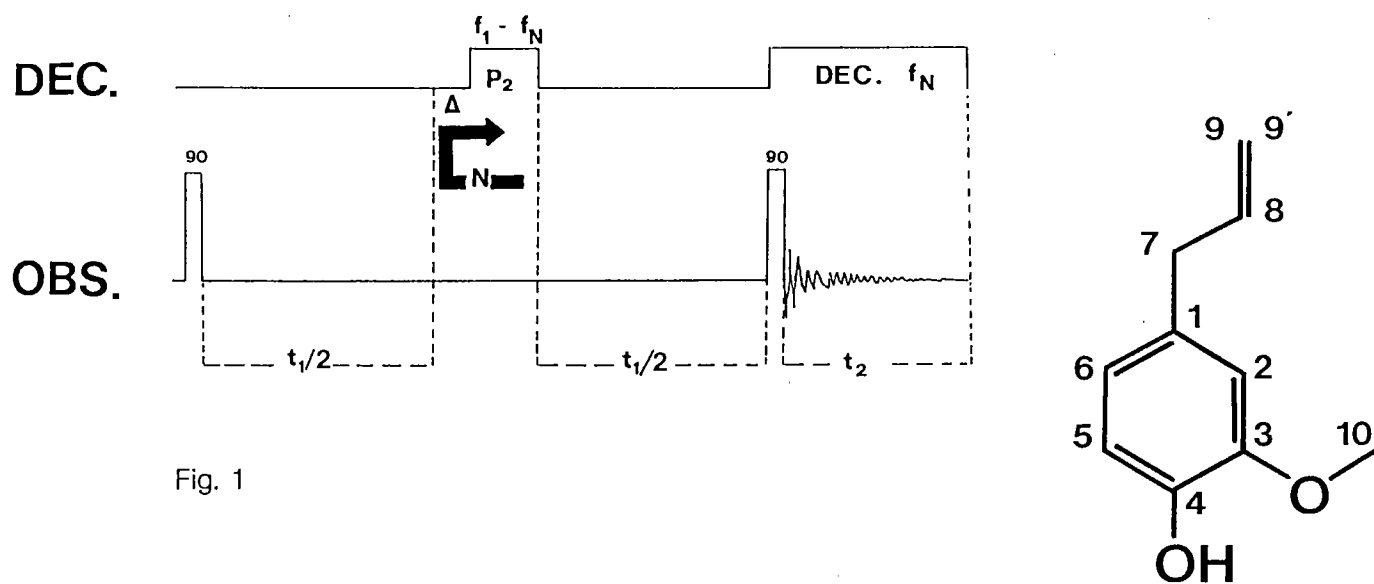

Fig. 1
As the condensation proceeds, initial products can be observed by high resolution C-13 NMR to form and then disappear. At this stage of the reaction the solution is not particularly viscous nor are there signs of gel formation. At this time no spectrum is observed by high resolution C-13 NMR techniques for solutions as high as 20 wt% in resorcinol. CPMAS studies of the gel, before it has undergone extensive washing and processing under supercritical conditions, reveal the presence of unreacted formaldehyde and broad featureless peaks with the polymeric spectra superimposed. The CPMAS spectra of the final low density crystalline-like product appear in fig.1 The densities of the final products are 58 (A) and 90 mg/cc (B) respectively. These spectra and the signal strength as a function of contact time do not suggest any parameters that can be related to the differences in density. One suggestion is that beads of polymeric material are formed and then linked to varying degrees by further reaction with formaldehyde. We are currently performing experiments
As an example we acquired the COSY spectrum of eugenol with a modified COSY sequence (Fig. 1) -including double quantum filtering and the possibility to record phased spectra- on our BRUKER AM 400 spectrometer. A few selective 180 degree pulses P_2 (5 ms, $S_1=10L$), spaced by Δ (2 ms) to change between various offset frequencies $f_1 \rightarrow f_N$, are applied in the middle of the evolution period. Normal (pulsed) homodecoupling at f_N is accomplished during the detection period. Fig. 2 shows an expansion of the 2D contour plot in the region of the 9 and 9' protons of eugenol. Whereas for Fig. 2a the methylene protons at C(7) are decoupled in both dimensions, giving a simplified but symmetric cross peak, an additional 180 degree pulse is applied at $t_1/2$ for Fig. 2b to selectively decouple both the methylene protons at C(7) and the methine proton at C(8) in the first dimension. This leads to a further data reduction in the first frequency domain (only the coupling interaction $J_{H(9),H(9')}$ is left). To compensate for the delay introduced in the middle of the evolution period the acquired data has to be shifted in t_1 by $(P_2 + \Delta) \times N / 2 \times IN$ (with the t_1 increment IN) data points for proper phasing.
We have observed spin echoes at unusual times in deuteron NMR of HD molecules present in "hydrogenated amorphous silicon". Echoes following the second pulse of $90_x - \tau - 90_y$ pulse sequence are shown in Fig. 1 for $\tau = 204 \mu\text{sec}$. The FID and two pulses are not shown. Besides the usual echo at time τ following the second pulse, there are two auxiliary echoes at $k \equiv t/\tau = 0.56$ and 1.78.
Fig. 1: Allowed Solomon-Butterworth echoes at 20.9 K. The echo positions expected from molecular beam measurements of a and b are indicated as dashed lines for comparison with the present data.